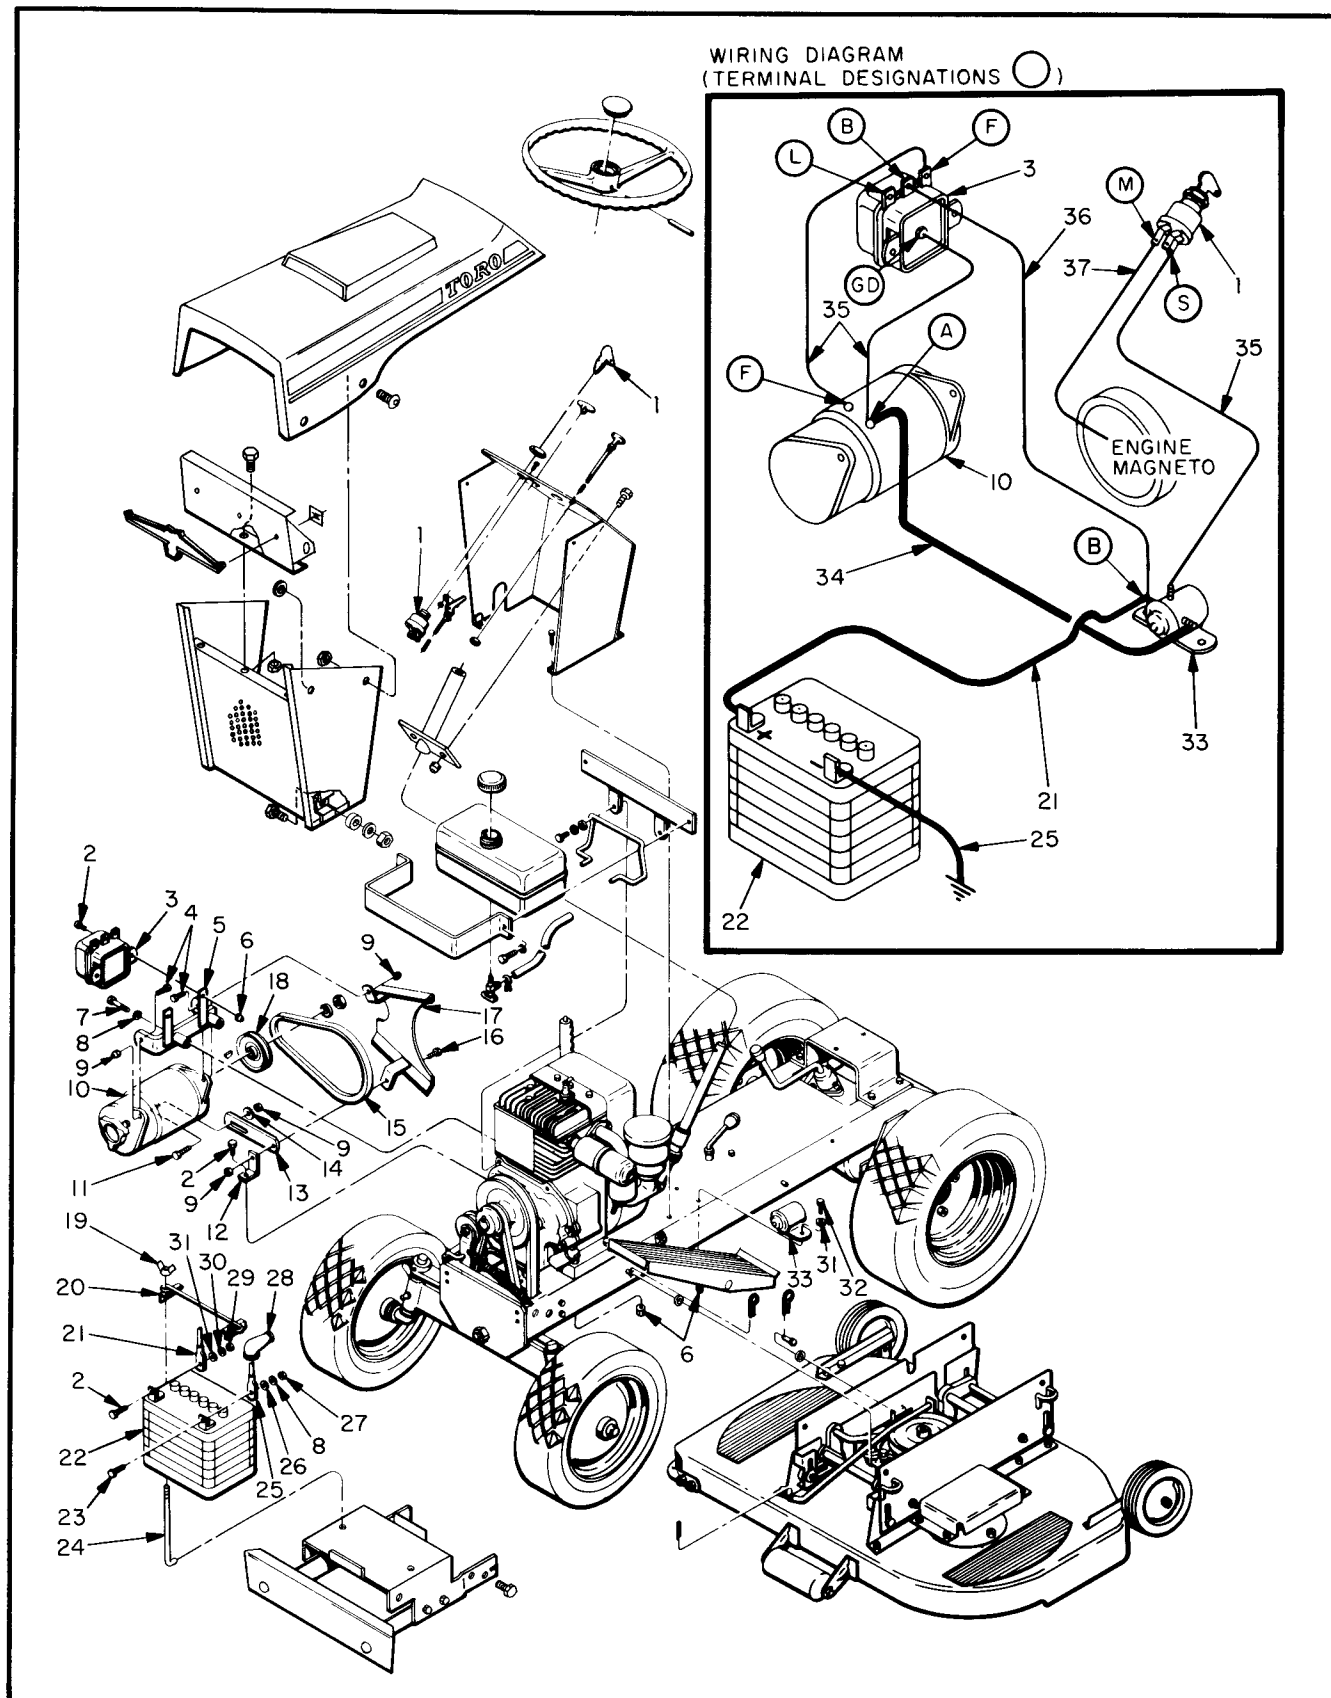

Figure 10A. Electrical Group
Refer to the exploded view, figure 10A. Open the hood and swing it forward to permit access to the battery (22). Use the bolts (24) and the holddown clamp (20) to secure the battery in the carrier with the battery terminals toward the front of the tractor. Be sure that the holddown clamp is not pressing on the filler plugs or touching the battery terminals. The rubber ends of the holddown clamp should grip the edges of the battery. Tighten the bolts sufficiently to hold the battery in place - DO NOT over-tighten. Connect the ground wire (25), attached to the engine base, to the negative terminal of the battery with hardware (8, 26, 27 and 28). Coat the terminal and hardware with petroleum jelly to prevent corrosion. Slip the terminal boot (28) over the terminal. Connect the positive cable, from solenoid (33), with hardware (28, 29, 30 and 31). Coat with petroleum jelly. Slip the terminal boot (28) over the terminal. Return the hood to its normal position and latch it closed.